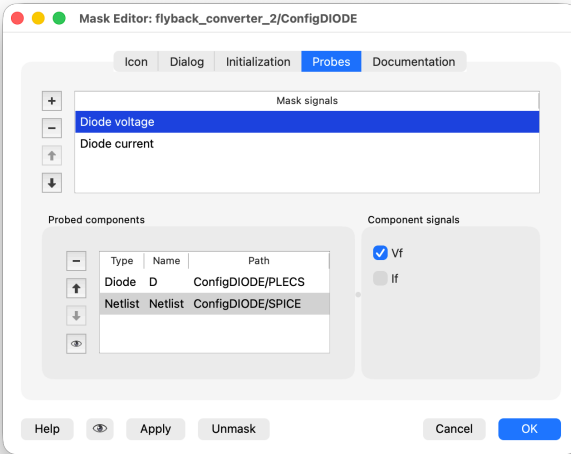

Figure 14: Configurable diode subsystem: probes tab
- 9** The probe signals defined in step 8 are used to access the SPICE circuit signals from the outer PLECS schematic. Refer to step 13 in Section 2 for instructions on configuring the mask of the diode configurable subsystem. The **Probes** tab of the mask should appear similar to Fig. 14.